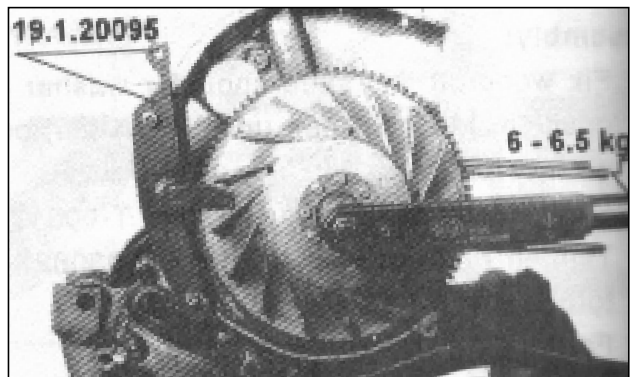

Fig. 175-Locking the flywheel with tool
- (b) Lock flywheel with tool 19.1.20095 and tight en the nut to torque 6 - 6.5 kgm. (Fig.175)